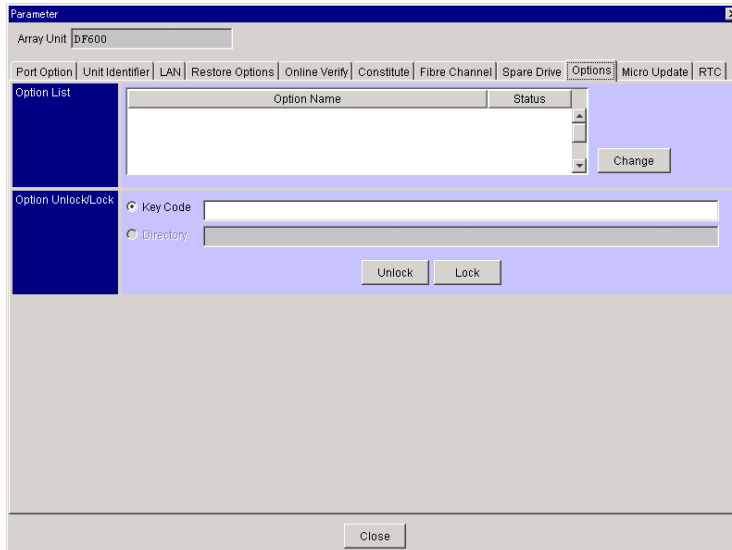

Figure 2.2 Parameter Panel
4. From the resulting Parameter panel, click the **Options** tab (see Figure 2.2).
4. From the resulting Parameter panel, click the **Option** tab (refer to Figure 2.2).
The updated window appears (refer to Figure 2.2).